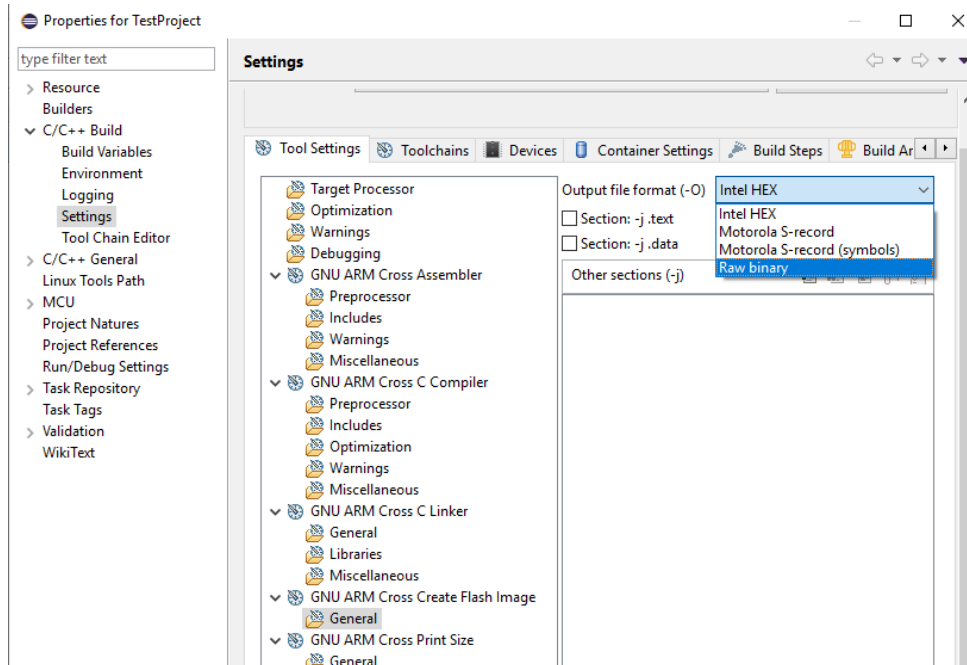

Figure 2-27 Setup Output File Format
12. If the created project is an executable one, Figure 2-27 shows how to select the output file format in **Properties** → **Setting** → **GNU ARM Cross Create Flash Image** → **General** path.